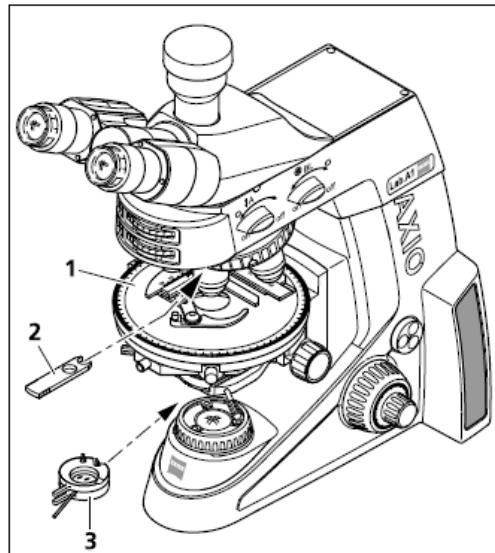

Fig. 4-12 Components for transmitted light polarization on conoscopy stand
- Set the microscope as in the transmitted light brightfield according to KÖHLER (see Section 4.1.1 (3)).
- Center rotary stage Pol (Fig. 4-12/1) (see Section 3.1.8.5) and objectives (see Section 3.1.8.6).
- Swivel polarizer (Fig. 4-12/3) into the light path and, if it is rotatable, position it at  $0^\circ$ .
- Swivel the analyzer into the beam path and adjust on the setting wheel until the field of view is dark.(Fig. 4-12/2)
- Swivel the polarizer, rigidly fixed or rotatable (Fig. 4-12/3) into the beam path. Set the rotatable polarizer to the  $0^\circ$  position.
- With the Axio Lab for polarization push the analyzer (453681-0000-000) into the 6x20 slider mount. (Fig. 4-12/2)
- Rotary stage Pol (Fig. 4-12/1)